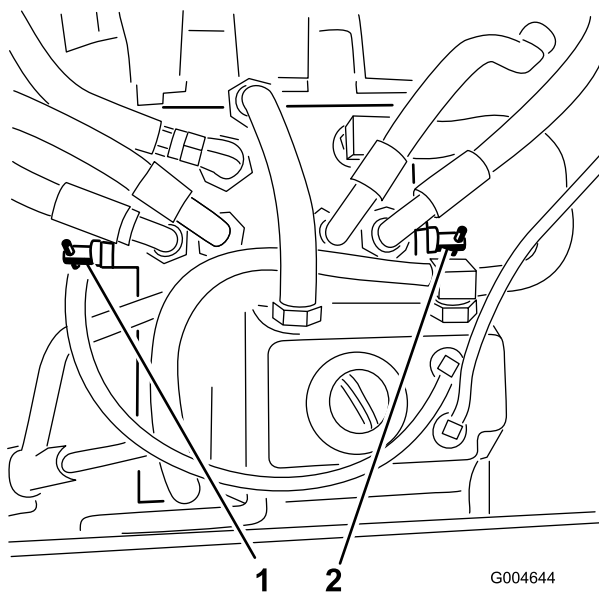

Figure 27
2. Locate the bypass valves (Figure 27) and rotate each bypass valve counterclockwise 1 turn.
4. Close the valves by rotating each valve 1 clockwise turn (Figure 27).